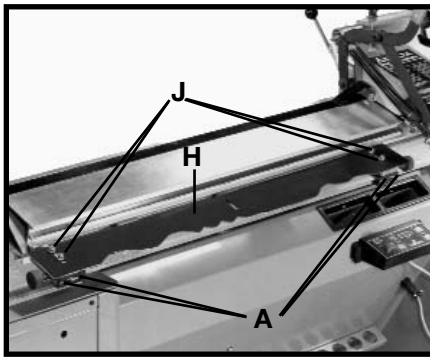

Fig. 76
4. To use a template as a pattern, place the template (H) Fig. 76 on top of the pattern holding brackets (A) and fasten with four M65 x 16mm hex socket head screws (J) (not supplied). Refer to section “**DUPLICATING FROM A TEMPLATE**”.
2. When setting up the duplicator for operation, point the lever (E) Fig. 76 to the right. After the first test cut, check the diameter of the workpiece. To adjust the diameter of the test cut, loosen wing screw (D) and rotate lever (E) slightly clockwise to decrease or forward to increase the workpiece diameter.